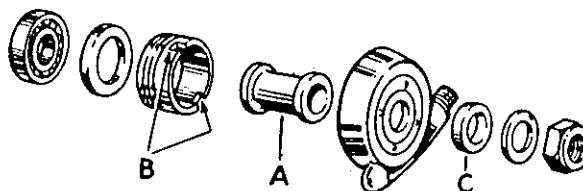

Fig. F9a. Speedometer drive assembly.
Refit the speedometer gearbox on the hub, together with its spacing sleeve (A) Fig. F9a, and check that the driving tongues locate properly in the ring slots (B). Fit the left side chain adjuster and insert the wheel spindle into the same side of the swinging arm. Lift the complete wheel into